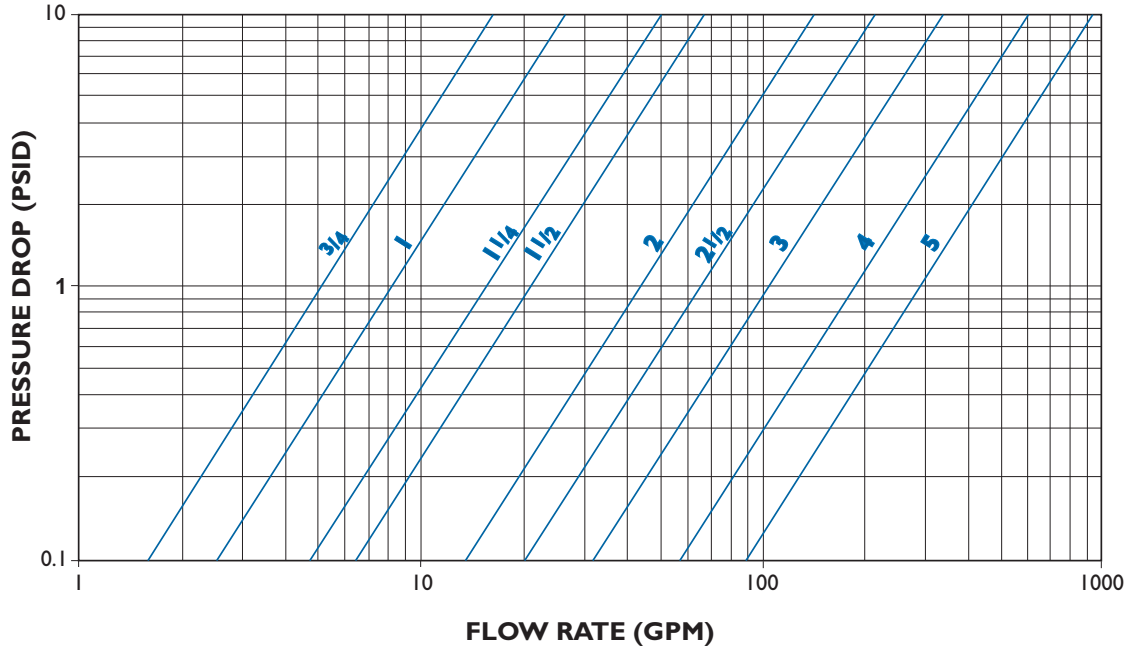

FIGURE 1
*Multiply values obtained from figure 1 thru 6 by the appropriate values shown below
* Multiply values obtained from figures 1 thru 6 by the appropriate values shown below